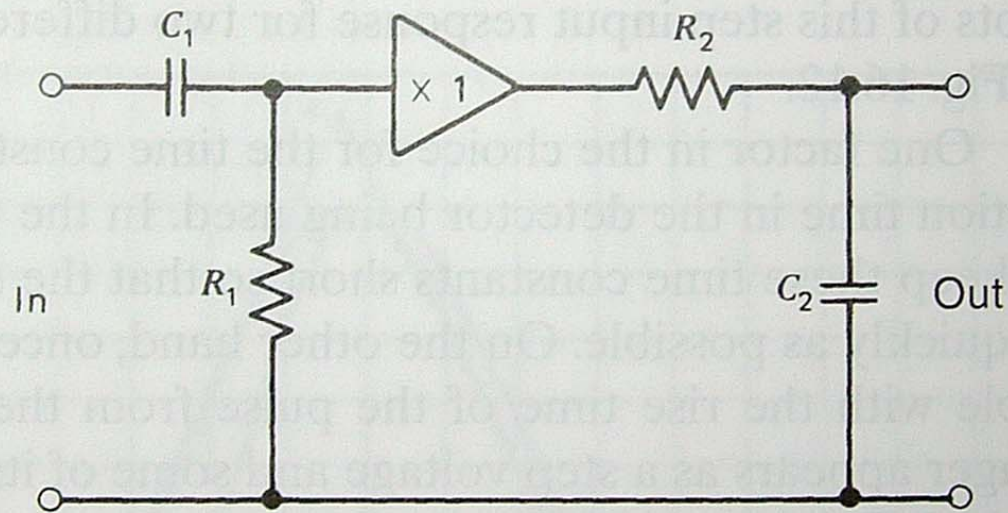

Figure 16.11 A shaping network consisting of sequential differentiating and integrating stages, sometimes denoted a *CR-RC* network.
- Fig.16.11 illustrate a shaping network which is composed of sequential differentiating and integrating stages, denoted as CR-RC networks
- Looking at Fig. 16.11 note that for a DC capacitive coupled circuit everything to the right of the capacitor must average to 0. This means if we were left with some voltage, a current must flow through the resistor and capacitor to ground (Impossible for a DC circuit).